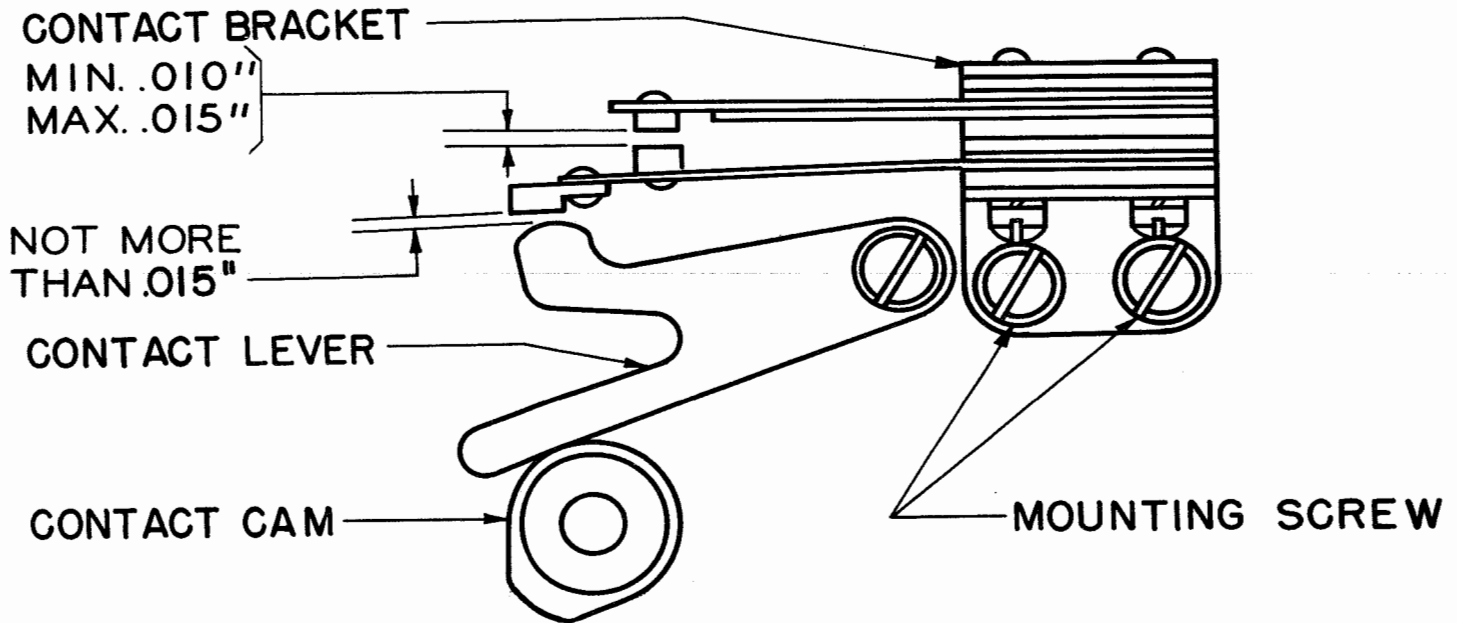

Figure 52
6.13 Signal-lamp Short Contact Spring should rest against its stiffener when the contact lever is on low part of its cam. Gauge by eye. See Figure 52.
6.14 Signal-lamp Contact Springs: When the contact lever is on the low part of its cam, the gap between contacts on long and short springs should be minimum 0.010 inch, maximum 0.015 inch. See Figure 52.
6.15 Signal-lamp Contact Springs: When the contact lever is on the low part of its cam, the insulator on end of long contact spring should clear contact lever by not more than 0.015 inch. See Figure 52.